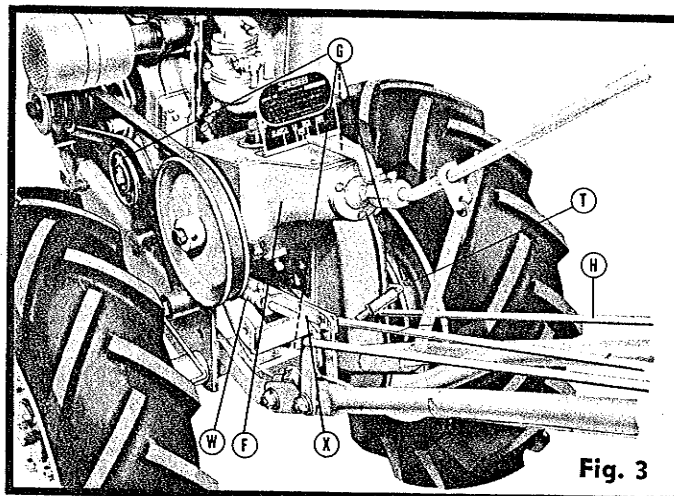

Fig. 3
11. Attach shift rod (H) to clevis assembly as shown in Fig. 3. Hold in place with cotter pin.
1. Adjust set collar on rod guide assembly (X), Fig. 3, so that spring (W) is compressed approximately  $\frac{3}{8}$  inch when right hand lever (D), Fig. 1, is pulled back and clutch engaged.
4. Limit the travel of the idler pulley so that the drive belt is released just sufficiently to slip on the engine pulley. This adjustment is made by setting position of the lever stop (P) at base of lever (M).
idler pulley, the main axle housing, the gear case, and the differential housing. **They are located in Fig. 3 and designated with letter (G).** Add a few shots of grease approximately every 8 hours of use to all fittings. Use a general purpose semisolid grease in the grease gun supplied with the tractor.
The three oil plugs are located on the transmission gear case and cover (F, Fig. 3). The filler plug is on the transmission case cover, the oil level plug on the rear of the transmission case, and the drain plug on the bottom of the transmission case. To fill transmission remove filler and oil level plugs and pour oil into filler plug opening until it rises to the oil level plug opening. (Be sure the tractor is standing level). Replace plugs and tighten securely. Add fresh oil as required. Use SAE No. 90 oil all year round in the transmission.